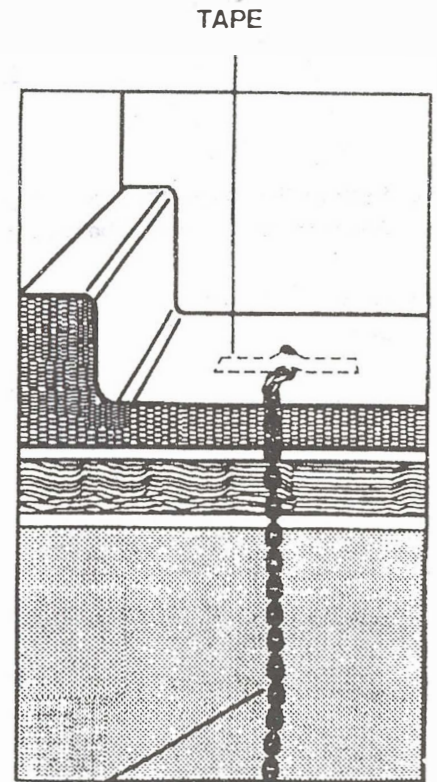

Fig. 4
- Temporarily attach the loose end of the chain to the rear of the counter top with the tape from the packaging. (see Fig. 4).